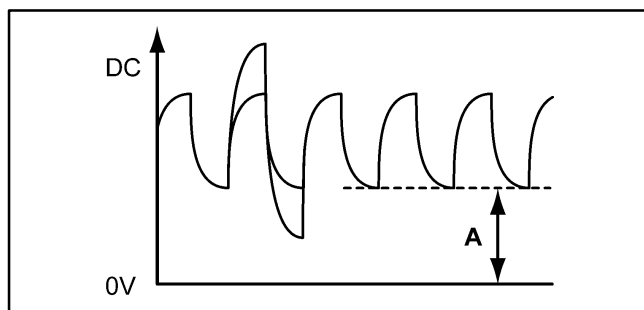

Figure 3-9-1
2. Adjust the adjustment VR or Dip SW so that the A portion of DC voltage is within the specification as shown in figure 3-9-1.